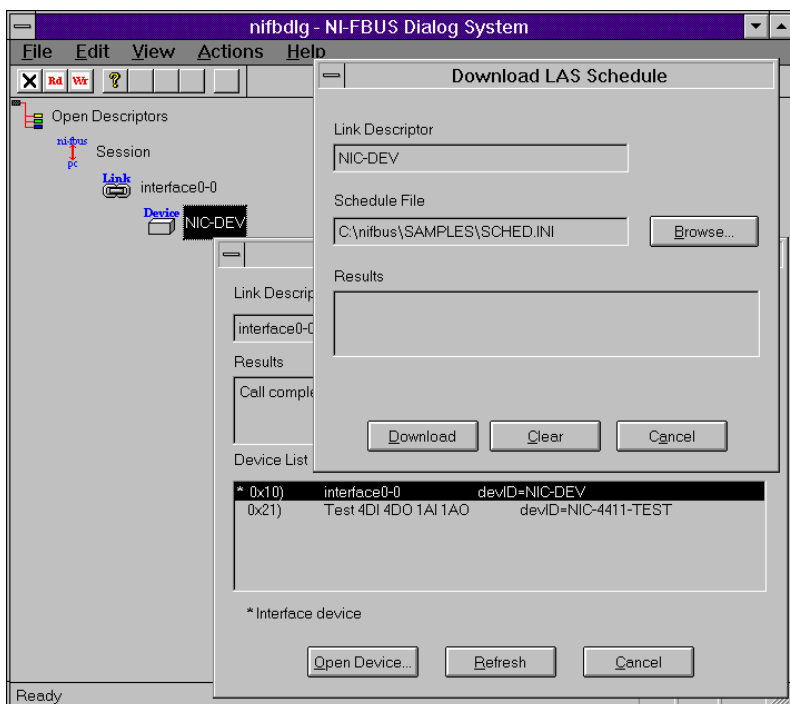

Figure 3-2. Downloading a Link Active Schedule
5. Right-click on the new device icon, and select the **DownloadLASSched** menu option. A new dialog box, shown in Figure 3-2, appears with identifying information for the device already filled in.